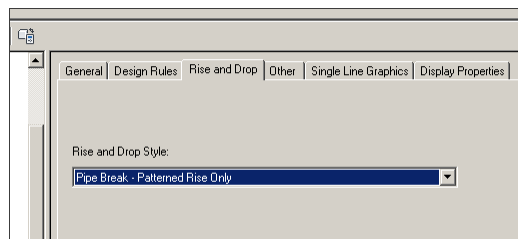

Figure 6.23
9. On the Rise and Drop tab, choose the **Pipe Break – Patterned Rise Only** style (see Figure 6.23).